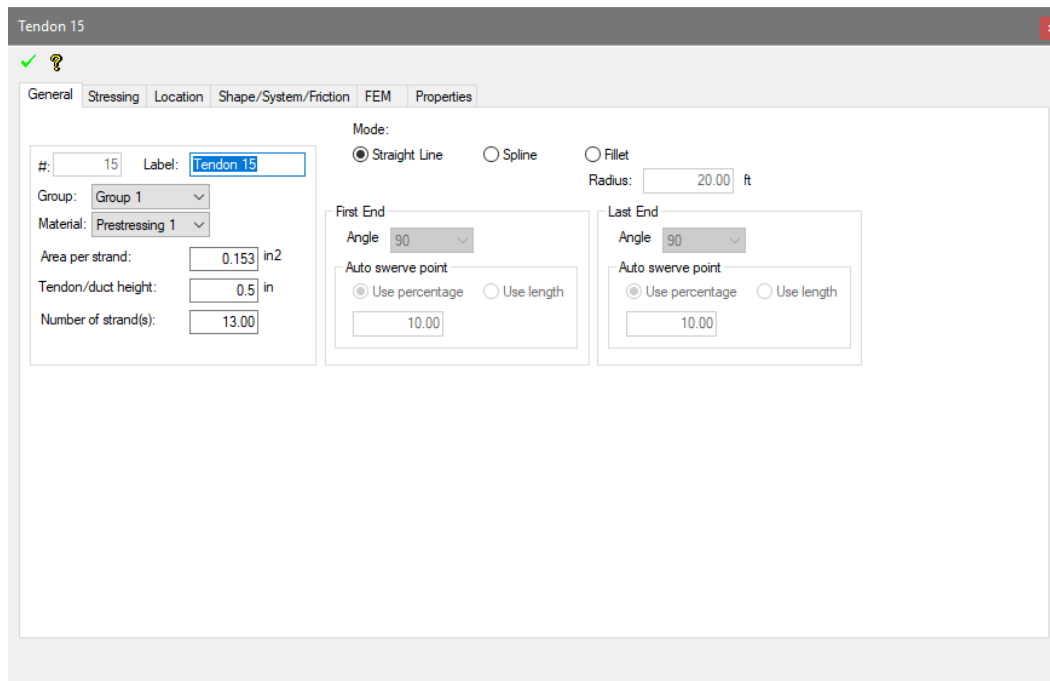

Figure 9-60
- Click on the *Item's Properties*  icon of the **Bottom Quick Access Toolbar**. This will open up the *Tendon* properties window as shown in **FIGURE 9-60**.